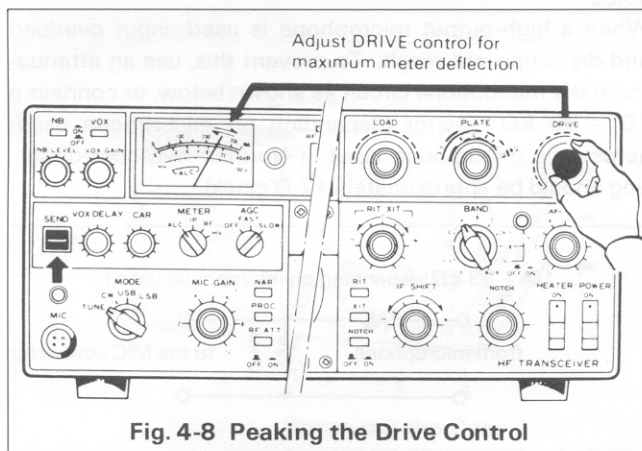

Fig. 4-8 Peaking the Drive Control
5. Place MODE switch to TUNE, METER switch to ALC. Peak the DRIVE control. If the meter pegs or goes out of the ALC range, reduce the CARRIER control setting for an on-scale reading. (the CAR control is a level adjustment, while the drive control is a resonating adjustment.) Fig. 4-8
9. Place the meter switch to RF. Close the key and repeat the LOAD for maximum RF output. You may at your option also redip the PLATE for maximum RF output. Fig. 4-8